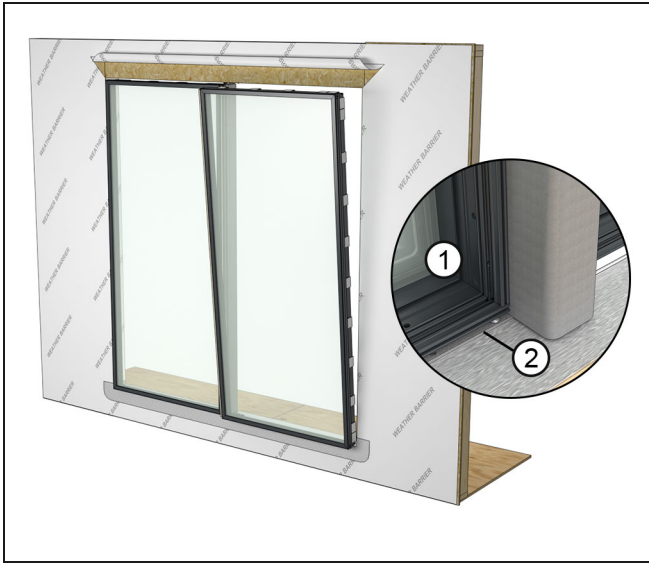

Figure 94
16. Set the second unit in place in the opening. Align the frames and clamp. See Figure 94.